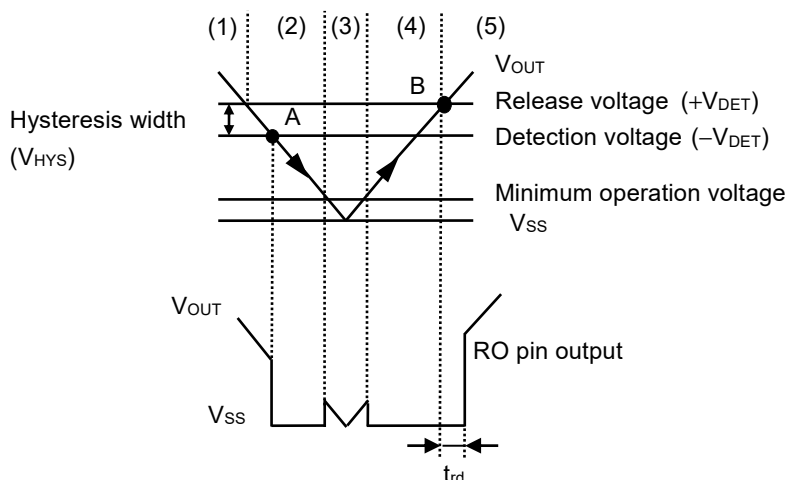

Figure 15 Timing Chart of Detector Block
- (1) When the output voltage (V_{OUT}) of the regulator is release voltage ($+V_{DET}$) of the detector or higher, the Nch transistor (N1 and N2) are turned off and "H" is output to the RO pin. Since the Pch transistor (P1) is turned on, the input voltage to the comparator (C1) is $\frac{R_B \cdot V_{OUT}}{R_A + R_B}$.
- (2) Even if V_{OUT} decreases to $+V_{DET}$ or lower, "H" is output to the RO pin when V_{OUT} is the detection voltage ($-V_{DET}$) or higher. When V_{OUT} decreases to $-V_{DET}$ (point A in **Figure 15**) or lower, N1 which is controlled by C1 is turned on, and C_{DLY} is discharged. If the DLY pin voltage (V_{DLY}) decreases to the lower reset timing threshold voltage (V_{DRL}) or lower, N2 of output stage of C2 is turned on, and then "L" is output to the RO pin. At this time, P1 is turned off, and the input voltage to C1 is $\frac{R_B \cdot V_{OUT}}{R_A + R_B + R_C}$.
- (3) If V_{OUT} further decreases to the IC's minimum operation voltage or lower, the RO pin output is "H".
- (4) When V_{OUT} increases to the IC's minimum operation voltage or higher, "L" is output to the RO pin. Moreover, even if V_{OUT} exceeds $-V_{DET}$, the output is "L" when V_{OUT} is lower than $+V_{DET}$.
- (5) When V_{OUT} increases to $+V_{DET}$ (point B in **Figure 15**) or higher, N1 is turned off and C_{DLY} is charged. N2 is turned off if V_{DLY} increases to the upper timing threshold voltage (V_{DU}) or higher, and "H" is output to the RO pin.